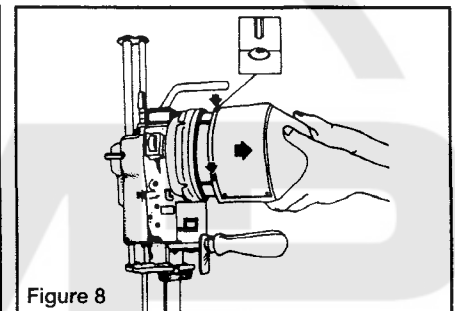

Figure 8
2.12 TO REMOVE MOTOR COVER A579 (Figure 8)